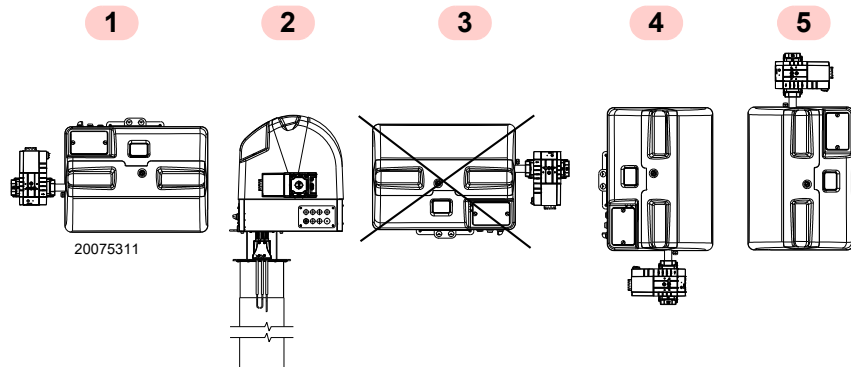

Fig. 18
- The burner is designed to operate only in positions **1, 2, 4** and **5** (Fig. 18).
- All the positions require the installation of the gas valve with coils facing upwards or horizontally (Fig. 18).